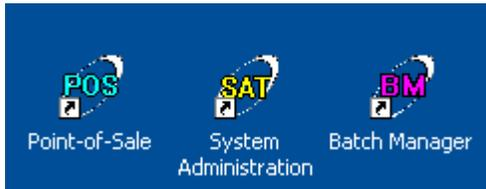

Figure 2.10
24. Upon a successful installation, three shortcut icons to the POS program (POS – Point-of-Sale, SAT – System Administration, and BM - Batch Manager) appear on the PC desktop (Figure 2.10). The version number can be verified by signing on to the SAT, POS, or Batch Manager and clicking **'Help'**, **'About PCC OTC'** from the menu at the top of the screen. The Security Administrator needs to sign on to the SAT as the 'admin' user and create user accounts. For complete information, refer to the *System Administration Tool* chapter, 'User Administration' section of this User Manual.